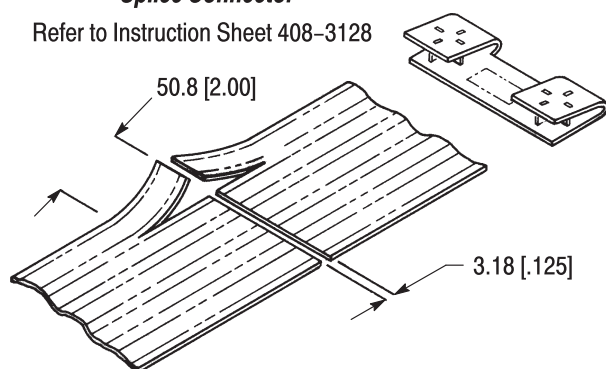

Figure 2
1. Separate the conductors of the cable along the perforations to the dimensions given in Figure 2.
Before starting crimping, refer to the instruction sheet packaged with the tap and splice connectors for preparation procedure and assembly sequence. The applicable sheets are referenced in Figure 2. Failure to do so could prevent sealing of insulation patches.